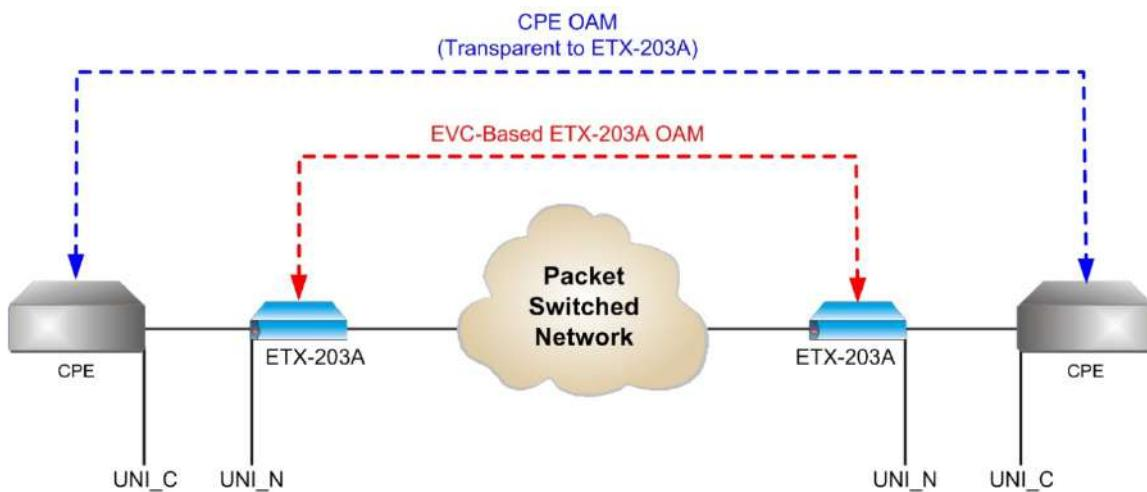

Figure B-1. OAM Architecture
*Figure B-1* illustrates two OAM flows: